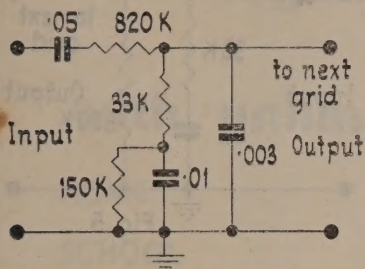
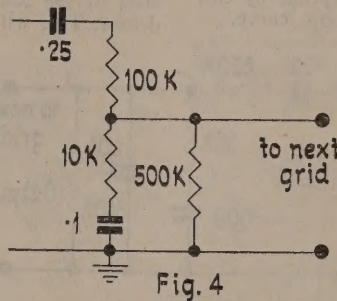
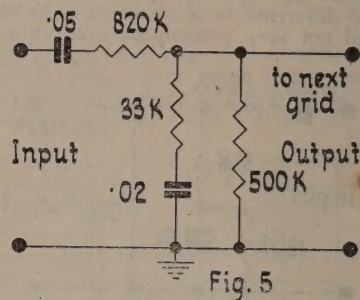
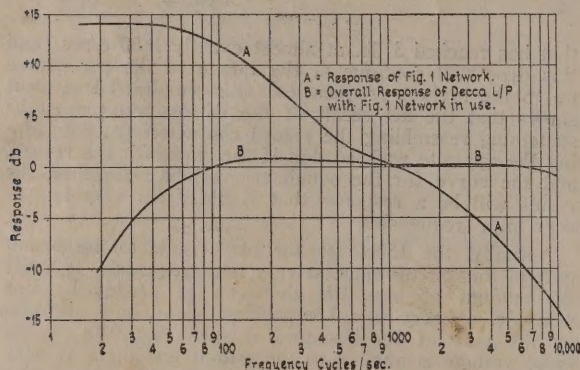

Fig. 1
Fig. 4
Fig. 5
Fig. 6
In order to illustrate this point, Figs. 1 and 2 show two equalizer circuits that have been recommended for use with high-quality magnetic pick-ups on L/P disks. The first was given by Boegli in *Radio News* as being suitable for American Columbia L/Ps, while the second was recommended by West and Kelly, in *Wireless World* for Decca L/Ps. A casual glance at the circuits would lead even the initiated to believe that these two would give noticeably different results, but in practice the difference is so slight as to be imperceptible by ear, and not very pronounced even on a response curve.
The L/P record characteristic in Fig. (a) shows that these records show an almost straight-line attenuation below 1000 c/sec., and a very similar rise in response above this frequency. Since there is about 30 db. difference in response between the upper and lower extremes of the response curve, it is not practical to use a single CR circuit for compensation over the whole range. The equalizers of Fig. 1 and 2 therefore comprise two CR circuits connected together in a particular way. One portion of the circuit deals with the frequencies below 1000 c/sec., while the other handles the frequencies above this. The condenser at the input end does not enter into the picture, being simply a blocking condenser, put there because the network will most often be placed between two amplifier stages, in which case the D.C. plate voltage of the first must be prevented from reaching the grid of the second. The low-frequency part of the network will be recognized by many as the 820k. resistor, the 33k. resistor, and the 0.01 μ f. condenser. This portion has exactly the same form as the simple bass correction network normally used with 78 r.p.m. records. This has been included, for the sake of comparison, in Fig. 4. At high frequencies, the 0.01 μ f. condenser has such a small reactance that it can, for all practical purposes, be regarded as a short-circuit. Thus, at high frequencies, in the absence of the 0.003 μ f. condenser (which for the moment we are conveniently disregarding) the bass-lift part of the circuit attenuates everything by the same amount. At extremely low frequencies, the reactance of the 0.01 μ f. condenser is so high that it can be thought of as an open circuit. In this case, the resistors do not cause any voltage division at all, and the full output from the first stage is passed on, but at intermediate frequencies, the attenuation varies between the two limits mentioned above. The 150k. resistor across the 0.01 μ f. condenser is included only to provide a D.C. path to earth from the grid of the valve following the network, and has a relatively small effect on the frequency response. This will be described later.
In Fig. 5 we have drawn the actual response curve of the Boegli network of Fig. 1. This was obtained in our own laboratory by building up the network with standard 20 per cent. tolerance resistors and condensers, and so illustrates the actual performance that can be expected by anyone who may do the same. It will be seen that the final bass lift obtained is 14 db., which is very close to the theoretical figure worked out above. The response falls regularly to about 600 c/sec., where there is a slight kink in the curve. This kink is the place where the top cut part of the circuit takes over from the bass lift portion, and is quite to be expected. The proof of the pudding, however, is to be found in curve B on the same diagram. Here we have plotted the combined effect of the Decca L/P characteristic, and the Fig. 1 network. Nothing has been allowed for the pick-up itself, so that curve B represents the result to be expected if the pick-up is a high-quality one, with an exact constant-velocity characteristic.
However, before we leave the equalizer of Boegli, in Fig. 1, we would like to point out that the resulting curve on Fig. 6 (b) was drawn for an English L/P record, whereas Boegli recommends the circuit for use with American Columbia records, whose response curve is NOT identical with that of the Decca. This shows in a practical way how well an equalizer circuit designed for the one type of L/P disk will work when used on the other, and indicates that enthusiasts need have no fear of using an equalizer designed for the American records.
that there is a 500k. grid leak from the upper end of the 50k. resistor to earth, then the ratio of L.F. response to H.F. response is, according to the circuit values, only four times, or 12 db., which is slightly less than that of the former circuit. However, these simplified calculations do not take into account a secondary bass lift effect given by the top cut condenser in conjunction with the upper resistor in each case. As a result of this, and partly, no doubt, owing to the use of wide tolerance resistors, the West circuit was found to give slightly more bass boost than the Boegli one. The actual response curve of the circuit of Fig. 2 is shown in Fig. 7. It is seen to be remarkably similar to that of Fig. 6, and indeed, when the original curves were plotted, from which these printing blocks were made, it was possible, by superimposing the curves, to show that nowhere throughout the whole range was there a difference of more than 2 db. at any frequency, while at most places, the difference was less than 1 db. Also on Fig. 7, in curve B, is shown the resultant of this equalizer and the record characteristic.
Now if this is compared with the curve of Fig. 6 (B), the difference appears at first sight to be quite marked, but closer examination shows that the Fig. 7 (B) curve is also flat within 2 db. between 50 and over 10,000 c/sec., so that in practice, results from the two
In order to see what is involved, let us look at a very common 78 equalizer circuit. This is given in Fig. 4. We have already noted that the circuit of Fig. 2 is basically similar to that of Fig. 4, if we forget about the top-cut condenser, so that it should be possible to devise a circuit whose resistors remain the same for all types of record, the only changes made being in the condensers. For example, Fig. 5 shows Fig. 1 modified for use on standard 78 records of British origin. Switching this over to Fig. 1 would entail only two single-pole-double-throw switches. One would switch the lower end of the 33k. resistor from the 0.02 μ f. condenser to a combination of the 0.01 μ f. condenser in parallel with the 150k. resistor. The other would switch the upper end of the 33k. resistor from the 500k. resistor to the 0.003 μ f. condenser. That is all there would be in it. Since pick-ups with replaceable heads are always arranged so that their